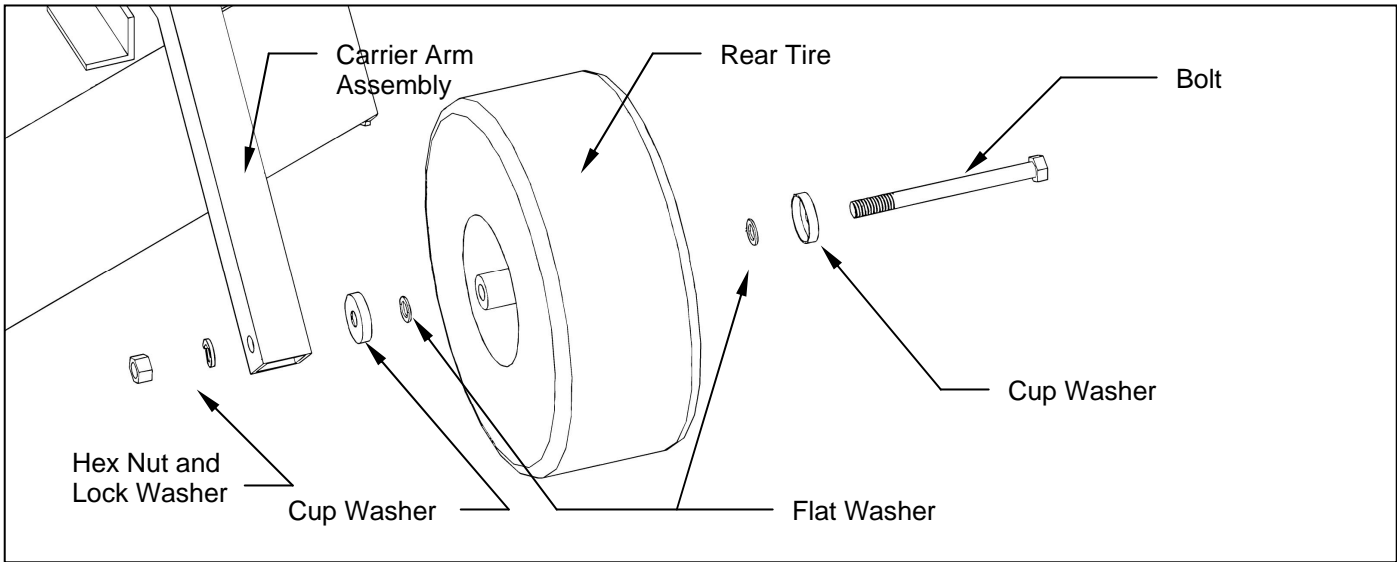
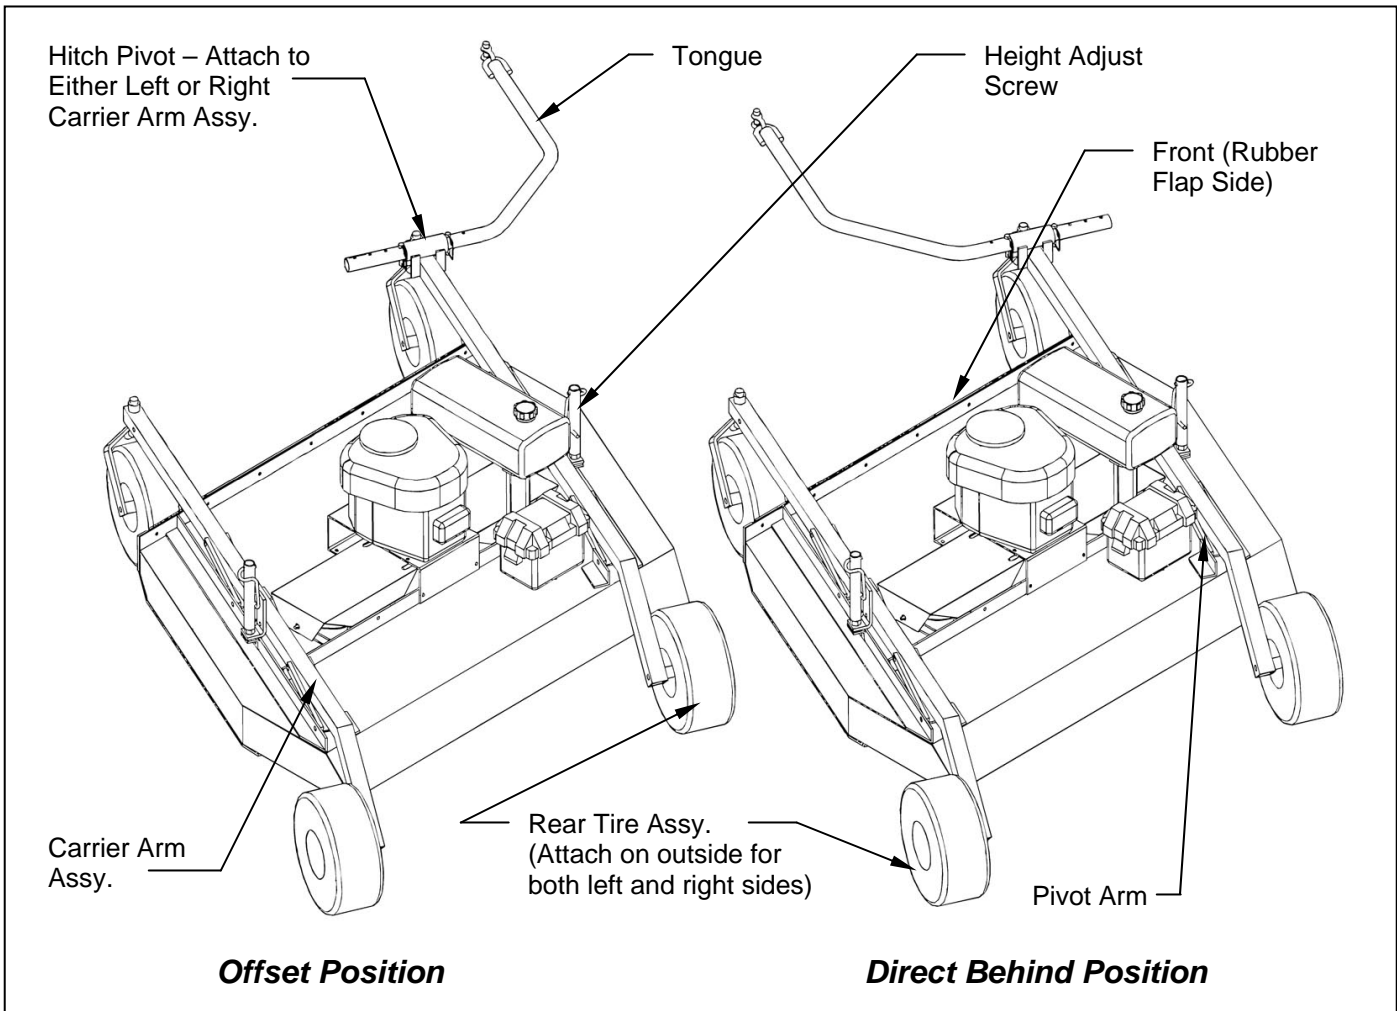

Figure 1: Rear Tire Assembly Installation
Figure 2: Assembly of Carrier Arm Assy., Hitch Pivot, and Tongue
2. Install the rear tire assemblies on the carrier arm assemblies. Remove the hex nut and lock washer from the rear tire assembly and install the 5/8"x7-1/2" tire axle bolt through the hole in the carrier arm assembly. **See figure 1.** Secure assembly with the lock washer and hex nut provided on the rear tire assembly. The rear tires should be offset to the outside of the deck assembly on both sides. **See figure 2.**
3. Install the two carrier arm assemblies in the pivot arms, which are located on the mower deck assembly. Place the assembly so that the castered tires are on the front and the fixed tires are on the back. **See figure 2.** Secure with 1/2" x 3-1/2" hex head bolts and lock nuts provided on the pivot arms. Mount the height adjust screw on the deck assembly in the hole provided. Secure with the 1/2"x1" hex head bolt and lock nut provided on the height adjust screw.
1. The tongue can be installed either on the left or right caster assembly depending on how the tow-behind mower will be towed. **See figure 2.** Secure the hitch pivot on the chosen caster assembly with the 1/2" x 3-1/2" hex head bolt, lock washer, and nut provided.
Note: When pulling the mower directly behind, the hitch pivot should be fastened on the right carrier arm for maximum maneuverability. **See Figure 2.** When pulling the mower in the offset position the hitch pivot can be fastened on either the right or left carrier arm. **See Figure 2.**